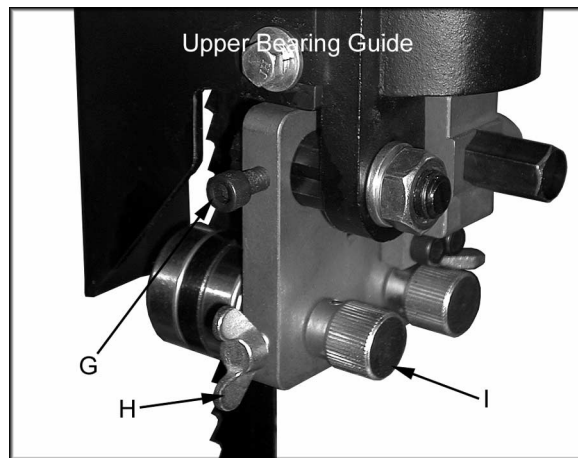

Figure 3
4. Loosen the socket head cap screw (G, Fig. 3) and slide the bearing assembly until the bearing guides rest just behind the gullet of the blade teeth. You may need to readjust the back-up bearing.
5. Loosen the wing nut (H, Fig. 3) and turn the adjusting screw (I, Fig. 3) clockwise or counter-clockwise until the bearing is approximately 1/64" away from the side of the blade (use the folded dollar bill for this measurement). Tighten wing nut.